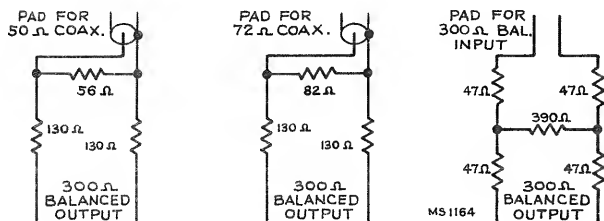

Figure 23—Sweep Attenuator Pads
**VHF Attenuator Pad.** — Refer to figure 23 under Alignment Procedure.
**TUNER VHF ALIGNMENT** — Connect the VHF sweep generator to the antenna terminals. In order to prevent coupling reaction from the sweep generator, it is advisable to employ a resistance pad between the antenna terminals and the generator. Figure 23 shows three different resistance pads for use with sweep generators with 50 ohm co-ax output, 72 ohm co-ax output or 300 ohm balanced output. Choose the pad to match the output impedance of the particular sweep generator employed.